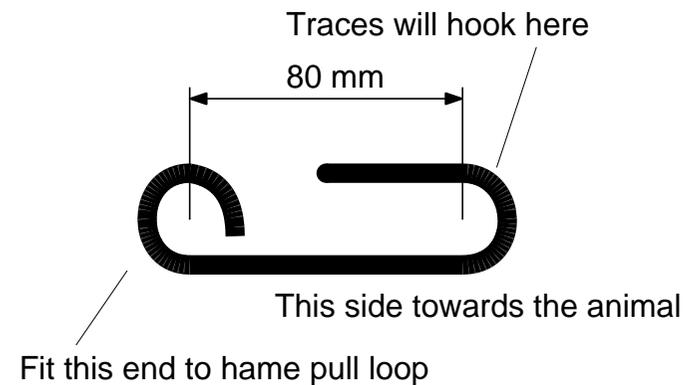

Figure 8: chain hooks for straps.
- 10) Make up some attachment hooks as shown in Figure 8.